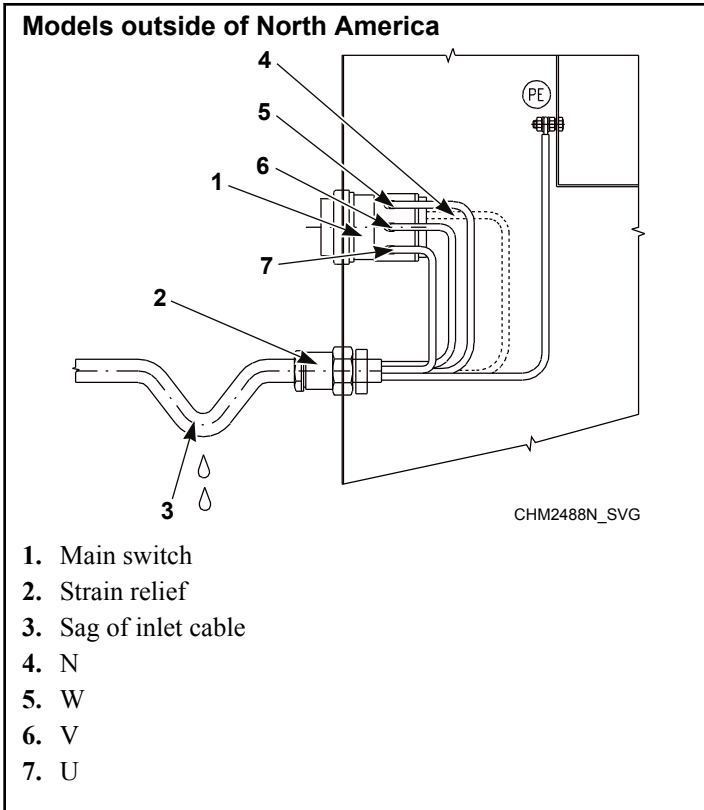
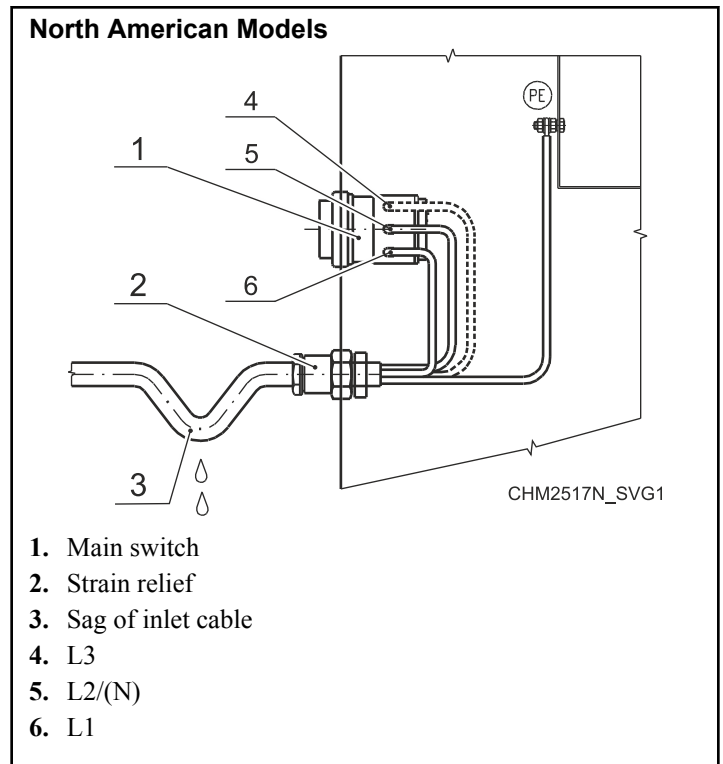

Figure 32
Figure 33
3. With stranded conductors, use wire end tubes with an insulated sleeve (6) for L1/U, (L2/V), (L3/W), (N) conductors. Make sure there is no accidental contact, since the supply cable stays under voltage even when the main switch is off.
5. Connect the supply cable conductors to the incoming terminals (main switch [1]), marked with L1/U, (L2/V), (L3/W), (N) and the terminal marked with PE. Refer to *Figure 32* or *Figure 33*.
6. Provide a sag in the cable, in front of the strain relief. This will prevent condensed water from dripping into the machine. Refer to *Figure 32* or *Figure 33*.